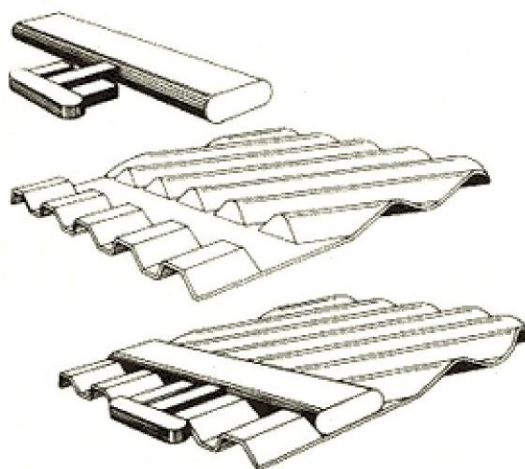

Figure 8-15. Clip-Type Glueless Gasket Installation
3. Clip-type glueless gaskets (Figure 8-15) are attached to the plate using the prongs which slip under the edge of the plate to hold the gasket securely in the gasket groove. The prongs are situated at regular intervals around the perimeter of the plate.